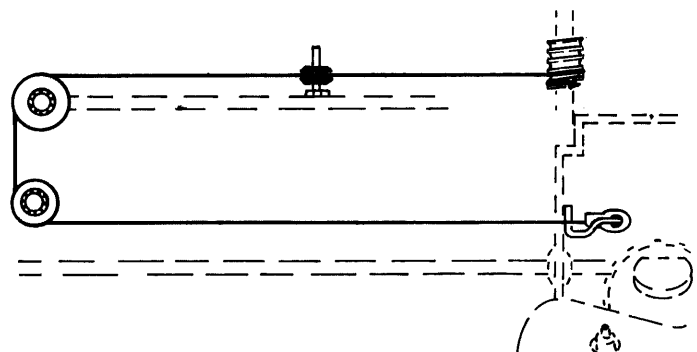
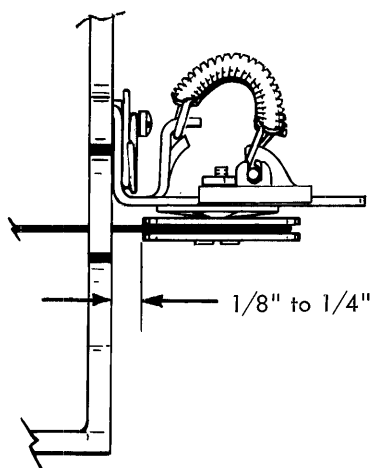

FIGURE 156A. Carrier Return Cord Threading
FIGURE 156C. Cord Tension
3. Cord Tension - With the cords properly threaded (Fig. 156A & B) adjust carrier return drum until the flange of the right hand transport pulley is clearing side frame by 1/8 to 1/4" (Fig. 156C).